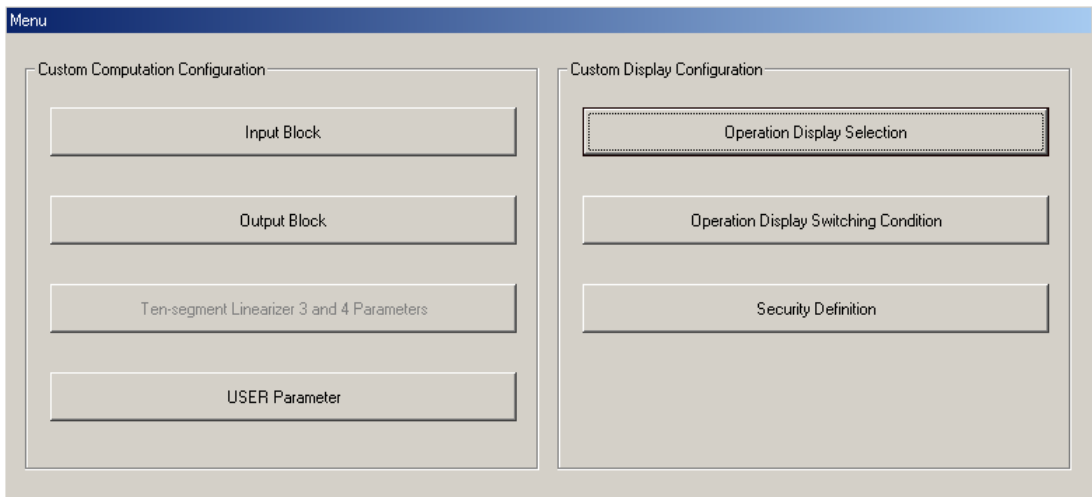
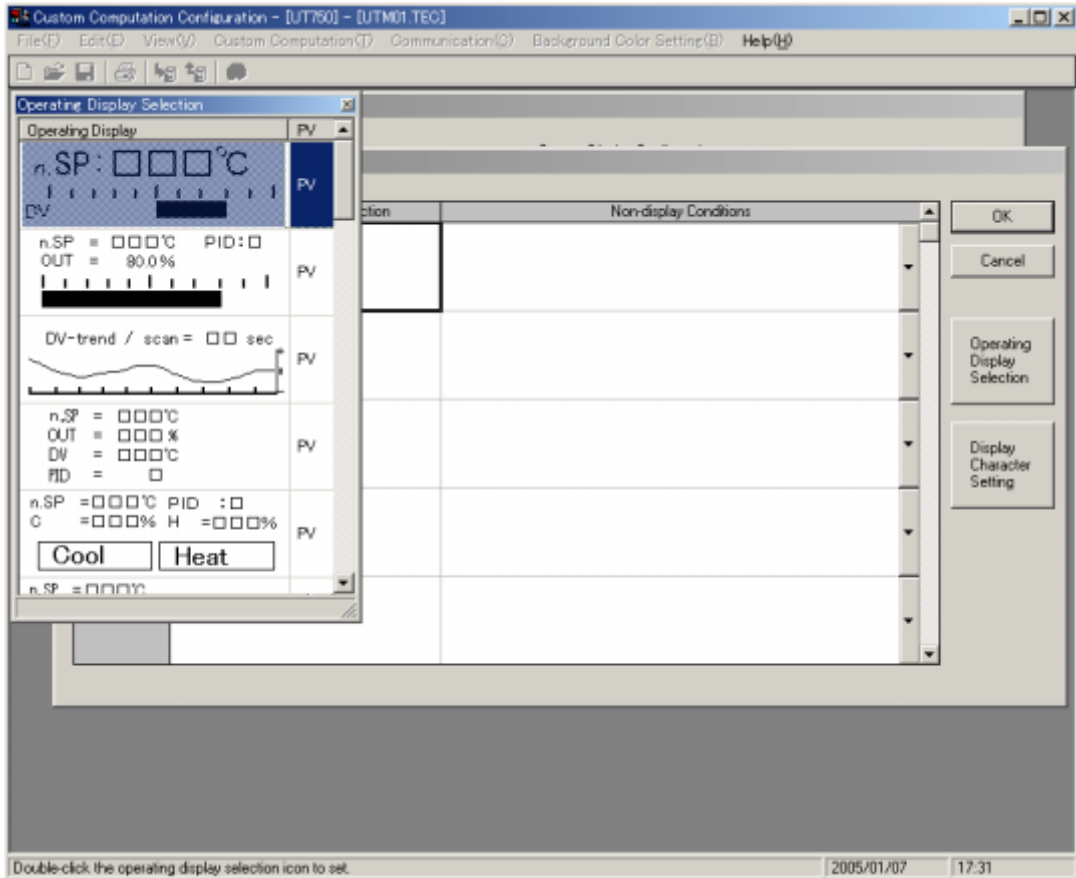

Figure 5.2.2 [Custom Display Configuration Menu] Dialog Box
Figure 5.2.5 Choices of Custom Displays for Single-loop Control
Figure 5.2.2 shows the [Custom Display Configuration Menu] dialog box used to configure custom displays.
- (1) In the [Custom Display Configuration Menu] dialog box (Figure 5.2.2), click the <Operation Display Selection> button. The [Operating Display Selection] dialog box appears. Figure 5.2.5 illustrates the choices of custom displays for single-loop control.
- (2) In the [Operating Display Selection] dialog box (Figure 5.2.5), click the cell of the rightmost box.